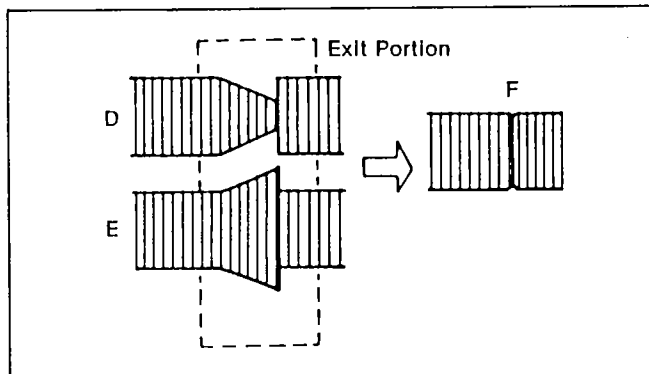

Figure M16
- If the RF envelope appears like example "D" or "E" in Figure M16, then adjustment of the tape guide post (P3 : Exit) is necessary.
- Adjust the tape guide post (P3) in the same manner as the P2 post so that the exit portion becomes flat as shown in Figure M16-"F".
- Press the (+) side and (-) side of Tracking Button simultaneously. The output envelope should vary nearly parallel with other condition as shown in Figure M16.